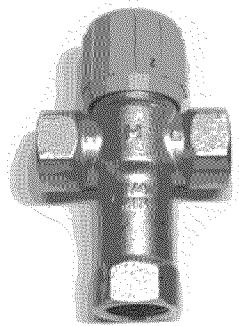

Figure 9 - Thermostatic Mixing Valves installed at each point-of-use can help prevent scalds.
- Point of use Thermostatic Mixing Valve (Figure 9 on page 10)
Install Thermostatic Mixing Valves (Figure 9) to regulate the temperature of the water supplied to each point-of-use (for example, kitchen sink, bathroom sink, bath, shower). Consult the valve manufacturer's instructions or a qualified person.